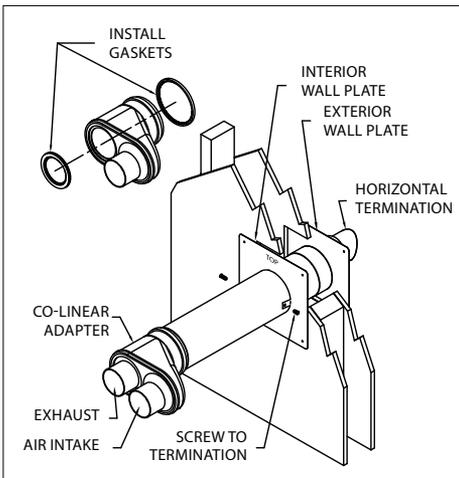

Figure 12
Horizontal Concentric (Fig.12)
8. Install gaskets into Co-Linear Adapter (if applicable). **(Fig.12)**